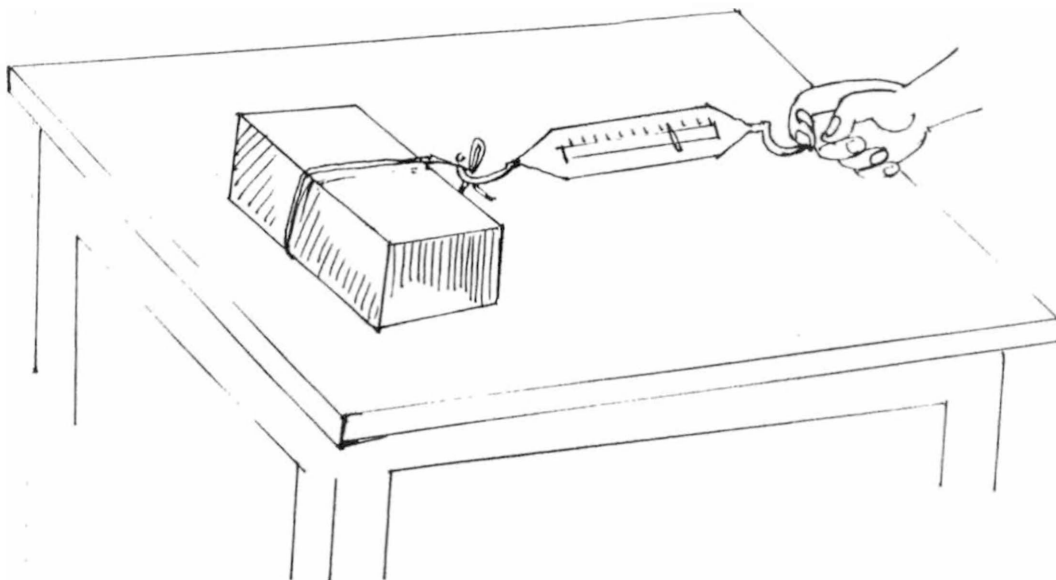

fig.2.8
2. Attach a spring balance to the thread tied to the brick as shown in Fig.2.8.